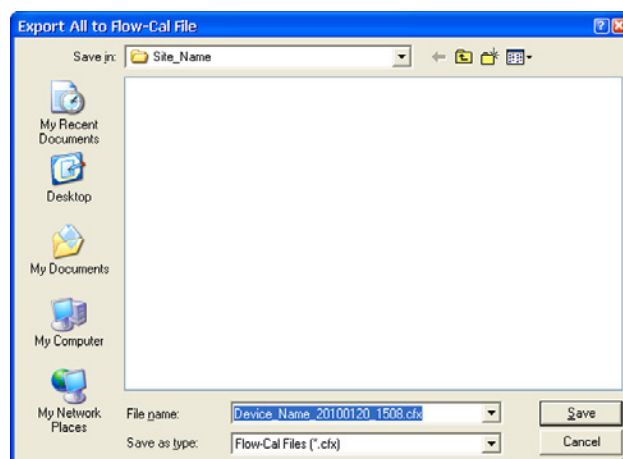

Figure 14.34
2. An Export All to Flow-Cal File or Export All to PGAS Files window will appear (Figure 14.34, page 203). To change the file path and/or file name from the defaults listed below, browse to the desired file path and/or type the desired entry in the field provided. See Log Directory and Filenames, page A-17 for more information.